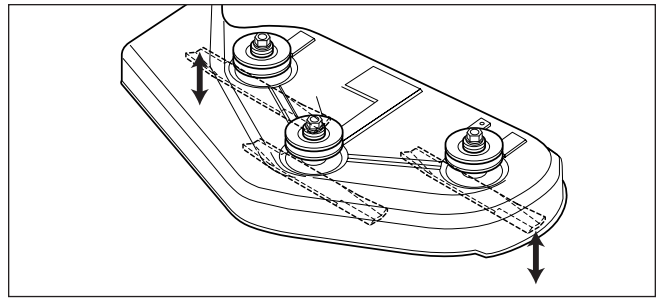
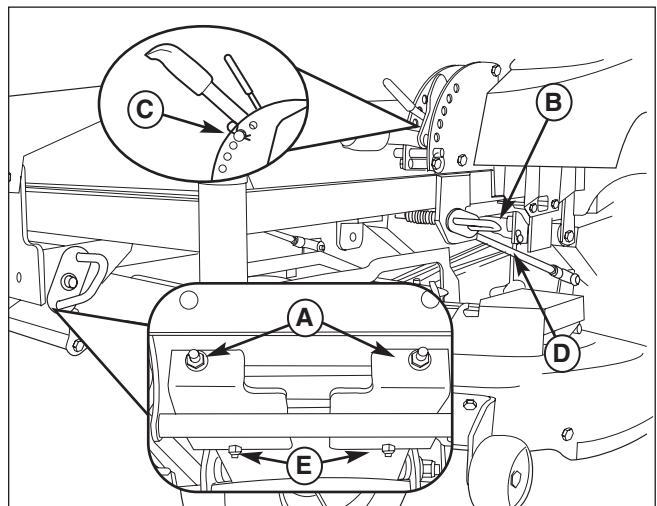

Figure 37. Orient Blades Side-to-Side
Figure 39. Mower Leveling
3. Place the mower cutting height pin in the 4th hole from the bottom (see insert, Figure 39). Arrange the outside mower blades so that they are pointing from side-to-side (Figure 37).
4. Measure the distance between the outside tips of each blade and the ground (Figures 37 & 38). If there is more than 1/8" (3mm) difference between the measurements on each side, proceed to step 5. If the difference is 1/8" (3mm) or less, proceed to step 6.
5. Use the rear leveling links (B, Figure 39) to adjust the side-to-side leveling of the deck. Repeat step 4 if necessary.
8. Check the length of the hanging rods. The rear (D, Figure 39) should be 15" (38,1cm) and is not adjusted. To adjust the pitch of the mower deck, adjust the front leveling nuts only.
9. Loosen the front lock nuts (E, Figure 39).
10. Turn the leveling nuts (A, Figure 39) counter-clockwise to lower the front of mower deck. Turn the nuts clockwise to raise the front of the mower. Make adjustments in small increments, trying to keep tension on both leveling nuts.
11. Tighten the front lock nuts (E).
3. Place the mower cutting height pin in the 4th hole from the bottom (C, Figure 39).